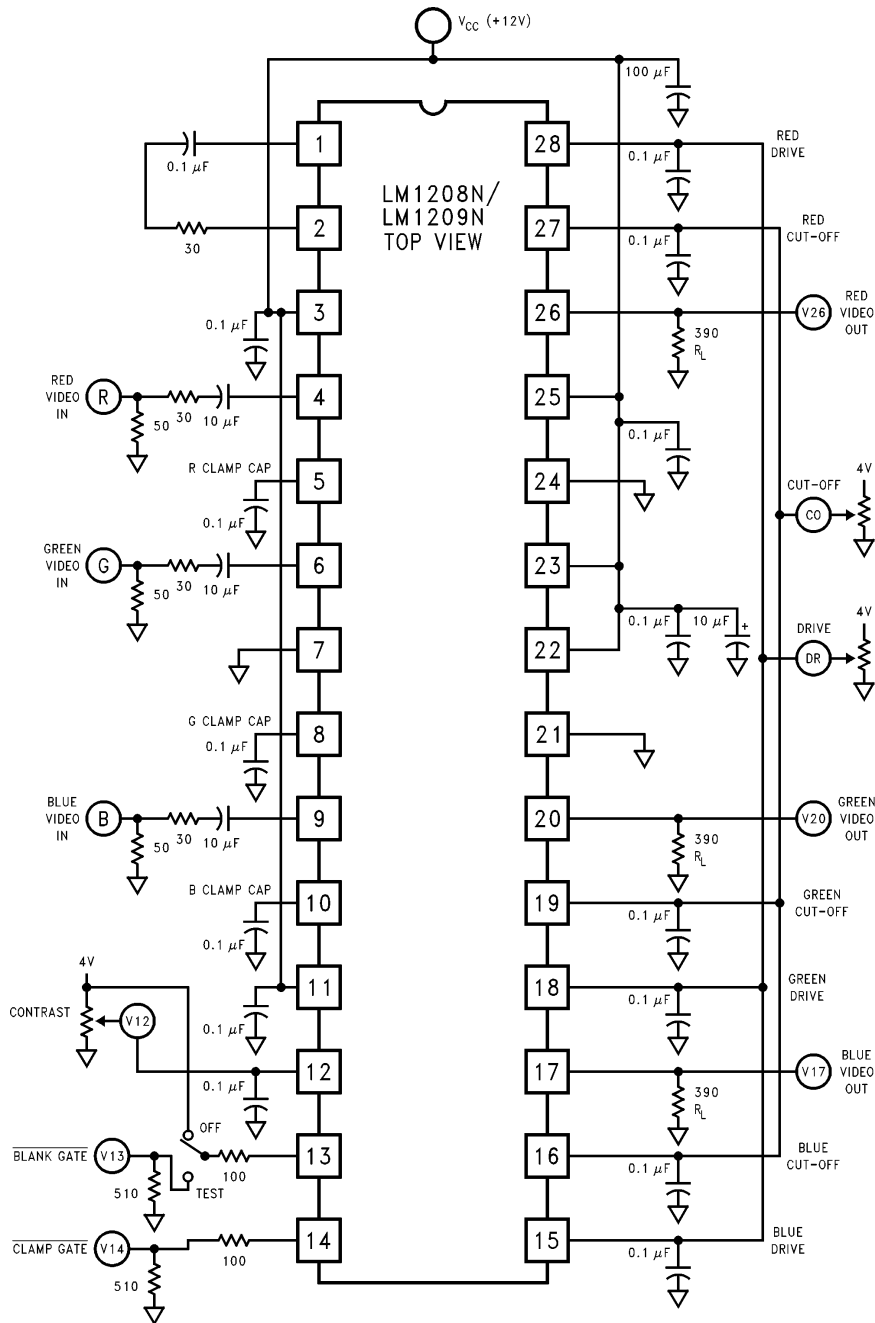

FIGURE 2. LM1208N/LM1209N DC Test Circuit
**DC Electrical Characteristics** See DC Test Circuit (Figure 2),  $T_A = 25^\circ\text{C}$ ;  $V_{CC1} = V_{CC2} = 12V$ .  $V_{I2} = 4V$ ;  $V_{I4} = 0V$ ;  $V_{cut-off} = 1.0V$ ;  $V_{I3} = 4V$ ;  $V_{drive} = 4V$  unless otherwise stated.
**Note 7:** The supply current specified is the quiescent current for  $V_{CC1}$  and  $V_{CC2}$  with  $R_L = \infty$ , see *Figure 2's* test circuit. The supply current for  $V_{CC2}$  (pin 23) also depends on the output load. With video output at 1V DC, the additional current through  $V_{CC2}$  is 8 mA for *Figure 2's* test circuit.